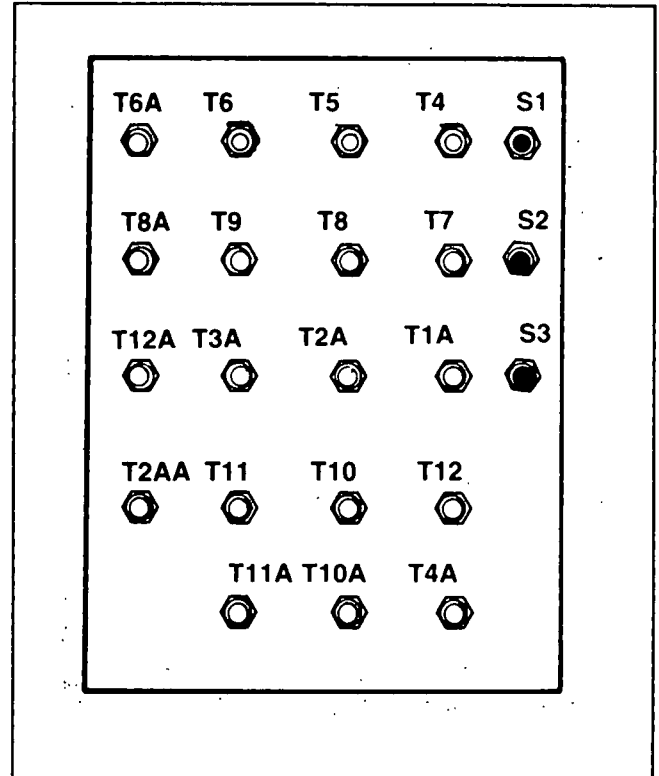

Figure 9. A Typical Stud Board
See Figure 9. The stud board has 19 studs. The board also mounts three (3) switches, identified as "S1", "S2" and "S3". Numbers adjacent to each stud identify the stator lead that attaches to the stud.